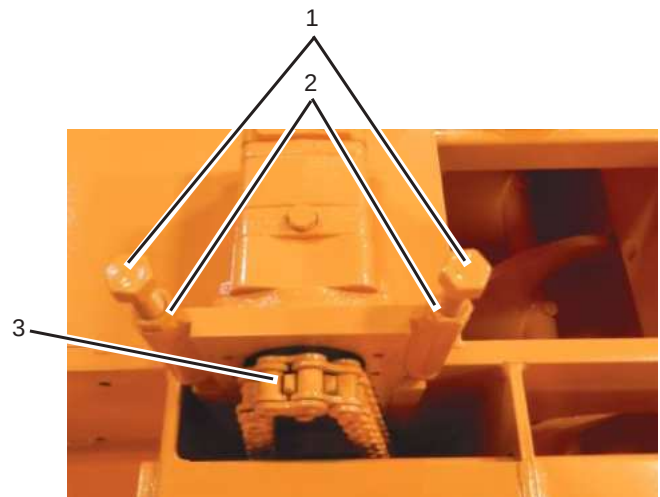

Figure 5-7. Conveyor Drive Chain Bolts
2. Open engine access door on the side adjusting to locate the conveyor drive chain bolts. (Figure 5-7)